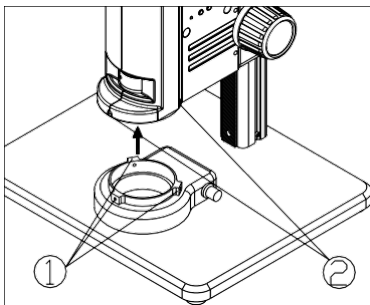

Fig. 2
- 1) Move the LED ring light close to the microscope body according to the arrowhead direction, and align the three screw holes ① with the thread groove ②. Lock the ring light into place by tightening the screw with the included hex wrench. (See Fig. 2).